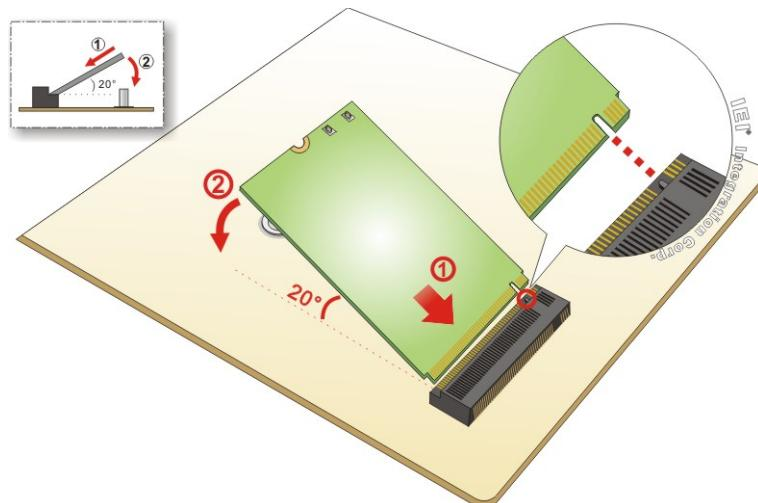

Figure 3-6: Inserting the WLAN Module
Step 5: Line up the notch on the WLAN module with the notch on the slot. Slide the WLAN module into the slot at an angle of about 20° (Figure 3-6).